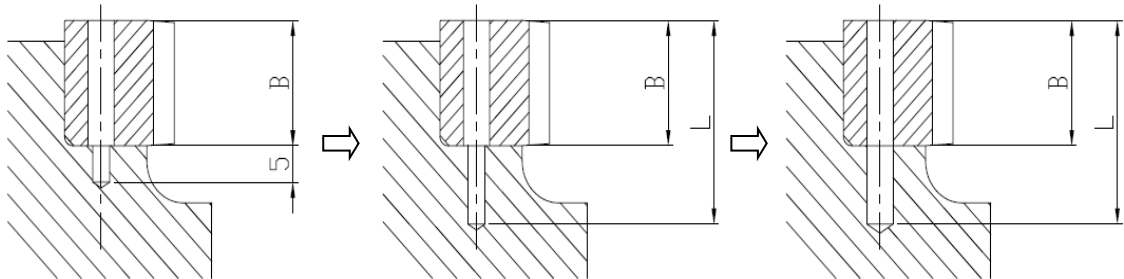

Fig. 14
- 8.4.3 Apply $\phi 5.7$ drill to drill a 5 mm deep hole on the machine bed, Fig. 14.